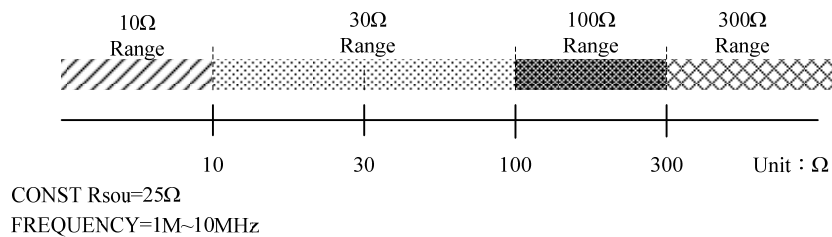

Figure 5-1 Range & Impedance (Z) Reference Table
The selection of RANGE needs to close to impedance value of DUT, it is for getting the optimum accuracy. It follows the known parameter to convert DUT impedance value and selects the required range by *Figure 5-1 Range & Impedance (Z) Reference Table*.